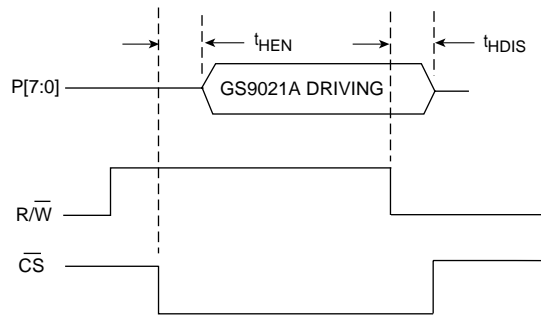

Fig. 8b HOSTIF Parallel Port Output Enable and Disable Times
- C) The GS9021A drives the P[7:0] bus when the R/\overline{W} pin is HIGH and the \overline{CS} pin is LOW. At all other times, the P[7:0] port is in a high impedance state. The host interface enable and disable times are shown in Figure 8b and are specified in the AC timing information. In this figure, the rising/falling edges of R/\overline{W} and \overline{CS} are not aligned to illustrate that the state of the P[7:0] I/Os is only a combinatorial function of the R/\overline{W} and \overline{CS} pins.